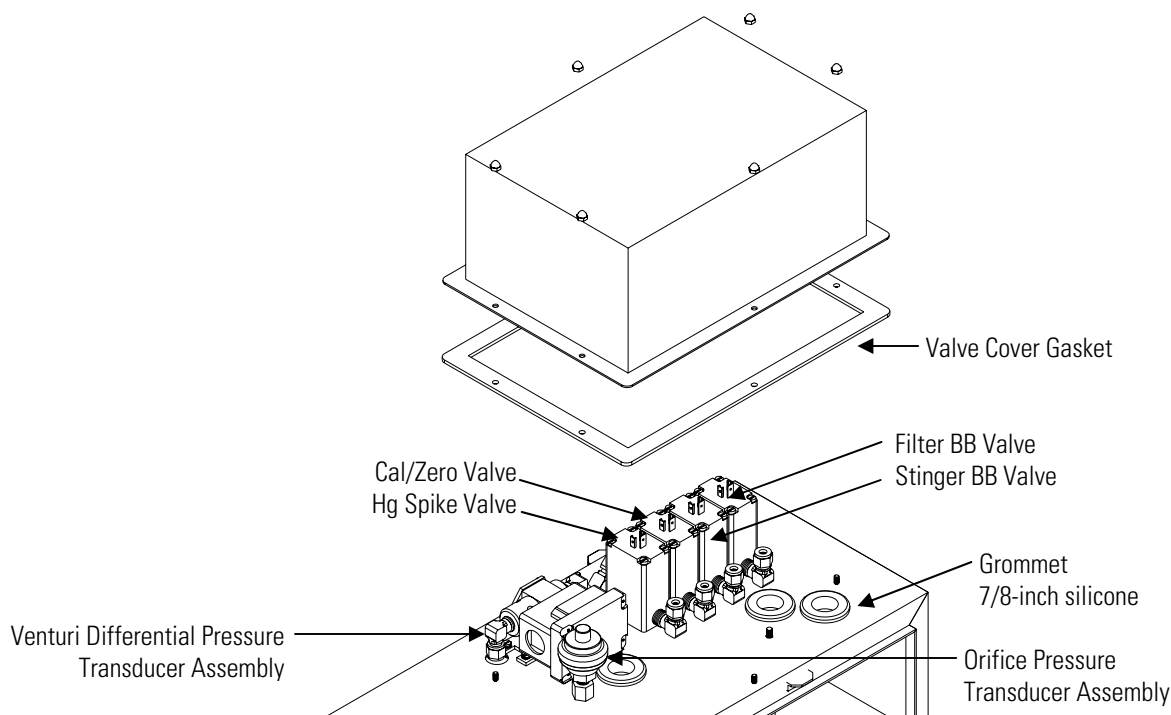

Figure 3–10. Valve Assembly, Orifice Replacement
Use the following procedure to replace the valve assembly (Figure 3–10).
1. Using a 5/16-inch extra long nut driver, remove six (6) acorn nuts. The cover is a convenient place to keep parts while working on the probe.
3. Unplug flag-lugs on top of valve. Refer to Figure 3–5 on page 3-8.
Use the following procedure to replace the orifice pressure transducer assembly (Figure 3–10).